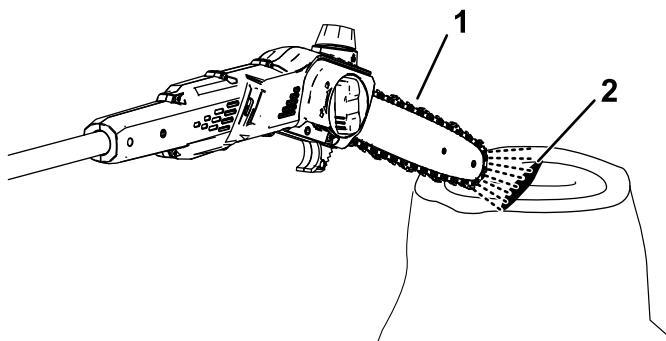

Figure 18
2. To ensure that oil is flowing to the chain, point the nose of the pole saw a few inches from a surface (e.g. paper, cardboard, a stump) and run the pole saw; you should be able to see a light spray of oil on the surface (Figure 18).